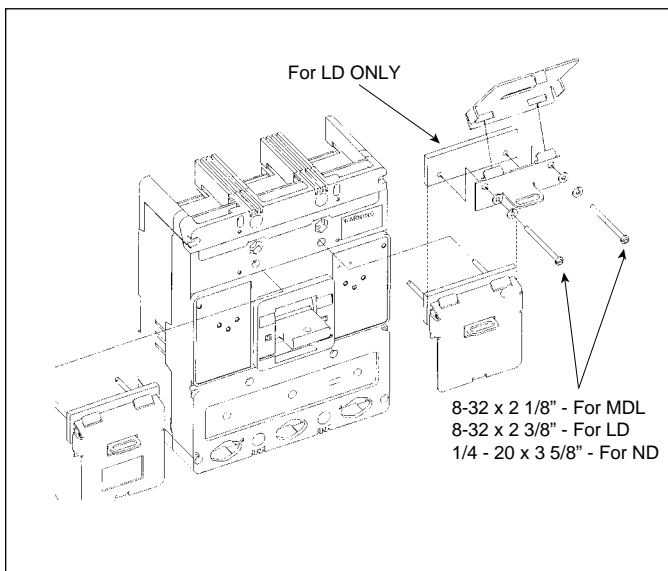

Figure 2-1 Padlockable Handle Lock Installation
The padlockable handle lock hasp (Fig. 2-1) is used to externally lock the circuit breaker handle in either the ON or OFF position or in the OFF only position depending upon the style being used. The on-off style hasp has a slot for the circuit breaker handle. Safety is ensured since trip-free operation lets the circuit breaker trip when the handle is locked in the ON position. The hasp is mounted on the circuit breaker cover above the handle. The hasp take up to three padlock shackles, each with a maximum diameter of 5/16 inch (8mm).
Note: When the padlockable handle lock hasp is mounted on the circuit breaker cover, a warning label is covered. A duplicate label is supplied with the mounting hardware. After the hasp lock has been mounted, the warning label must be placed on the breaker cover. (See Fig. 2-1).
- 2-1. Remove and discard the two cover mounting screws above the handle. (See Fig. 2-1.)
- 2-2. Place spacer on cover and align holes with cover mounting screw holes. (See Fig. 2-1.. **Note:** LD only.
- 2-3. Position hasp base with hinges toward line end of breaker over spacer and align holes. (See Fig. 2-1.)
- 2-4. Position long screws with flat washers and lock washers through hasp base, spacer (LD only) and into cover mounting holes and start threads, but do not tighten. (See Fig. 2-1.)
- 2-5. Position hasp latch to hasp base. Hasp plate hinge slots must be under base plate hinges (See Fig. 2-1.)
Note: Lockplate Retaining Feature - when the lockplate is hinged away from the mounting plate it can be retained in that position by sliding the lockplate to the right. (See Fig. 2-1)